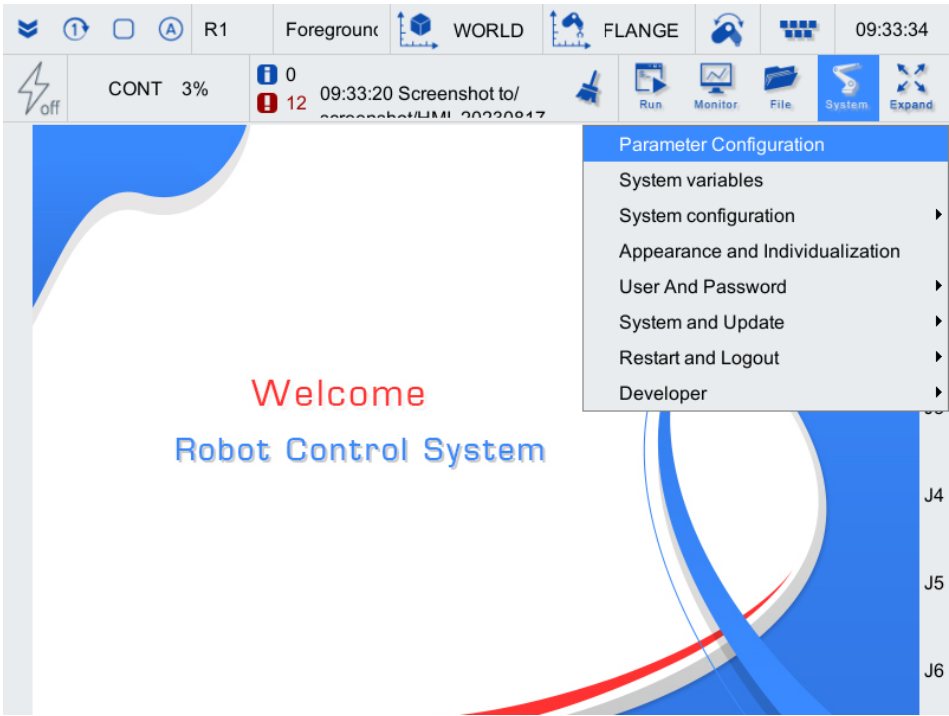

Figure 5-19 System related dropdown list
Step2. Click on [System/Parameter Configuration] in the upper right corner menu area, as shown in Figure 5-19.